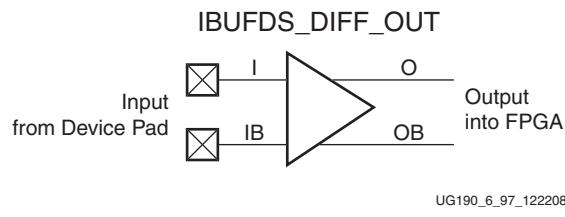

Figure 6-23: Differential Input Buffer Primitive (IBUFDS_DIFF_OUT)
Figure 6-23 shows the differential input buffer primitive with a complementary output (OB). This primitive is for expert users only.